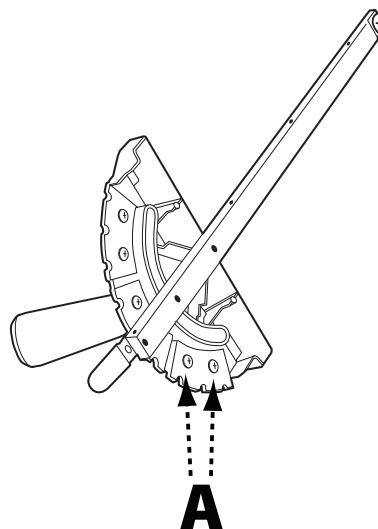

FIGURE 35
2. Loosen the 2 screws for the miter stop segment for the desired new angle. (A) is shown in Figure 35.